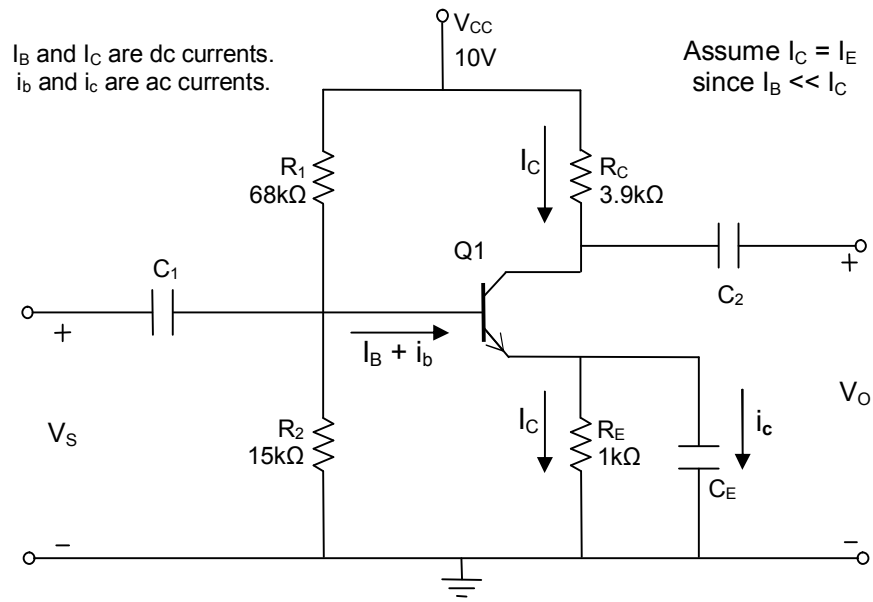

Figure 7.1: Common-emitter circuit with emitter bypass capacitor
- Perform B2 Spice simulations of the circuit shown in Figure 7.1, using the resistor values given and with extreme values of the resistors R_C (1k Ω & 20k Ω) and R_E (200 Ω and 10k Ω) , both with and without capacitor C_E . You should end up with ten different simulation graphs with the following resistor combinations:
Figure 7.1 shows a schematic diagram of a BJT common-emitter (CE) amplifier circuit. BJT transistor amplifiers are frequently used in the common-emitter configuration (CE), since this design gives both a high current gain (A_I), and a high voltage gain (A_V). Experiment #6 explored the dc and ac characteristics of the common-emitter circuit and how changing the Q-point affected circuit performance. You will study how the voltage gain of the circuit is affected by changing the values of the emitter and collector resistors. You will see how input signals can lead to distorted output signals as the gain and Q-point change.